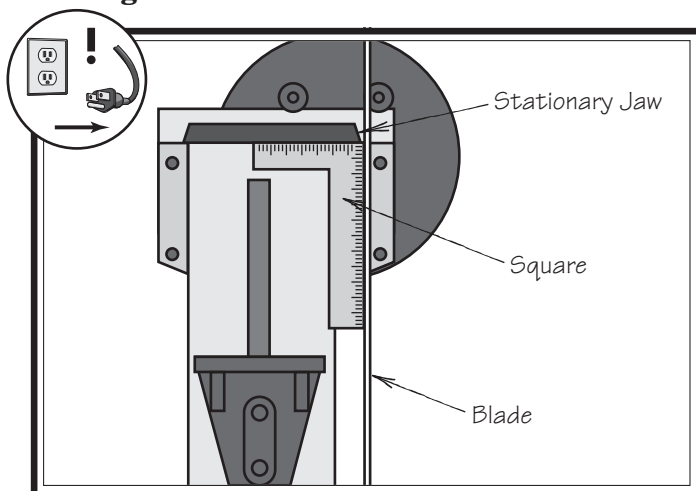

Figure 43. Testing vise/blade squareness.
3. Lower the headstock, then place a square flat on the table and against both the stationary jaw and the blade, as shown in Figure 43.